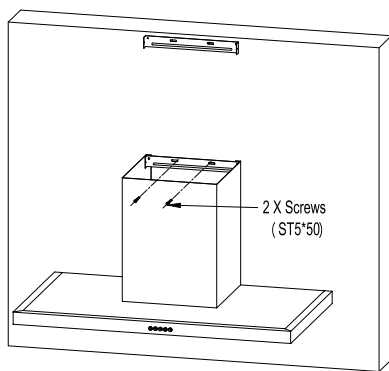

Fig.7
- After connecting the exhaust pipe well, fix chimney installation plate to prevent the range hood from accidentally sliding off the installation plate. See Fig.7.